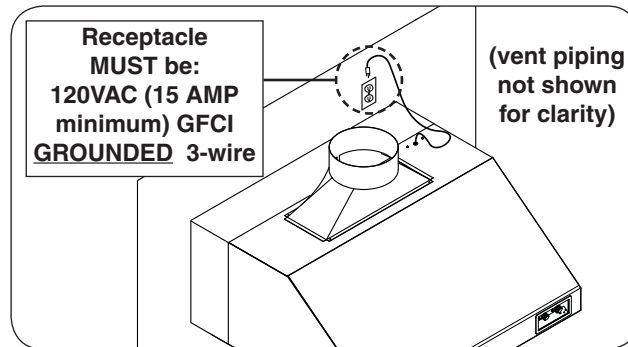
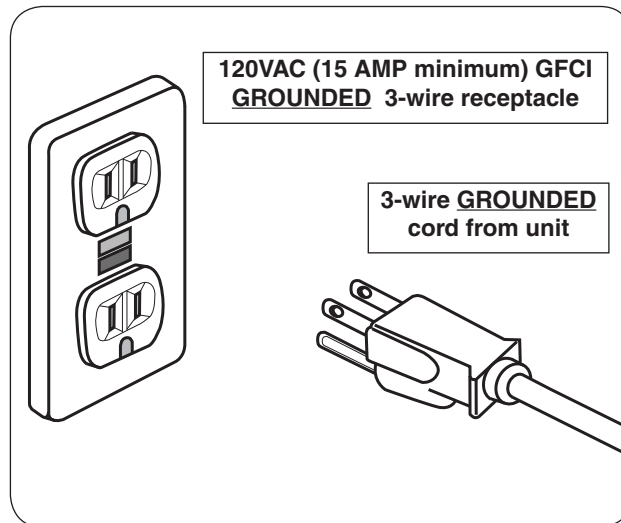

Fig. 18-1 Install receptacle & connect power cord
Fig. 18-2 Electrical setup detail
A **120VAC (15 AMP minimum) GFCI GROUNDED 3-wire receptacle** (not included) is required within the vicinity of the vent hood to provide power to the unit. The area above the vent hood that the soffit / duct cover will enclose is an ideal location (reference Fig 18-1). Your individual installation may vary.
1. Wire the receptacle above the top right of the unit (see Fig 18-1).
2. Connect the power cord coming from the top right of the unit to the previously wired **120VAC (15 AMP minimum) GFCI GROUNDED 3-wire receptacle** (see Fig. 18-1 and Fig. 18-2).